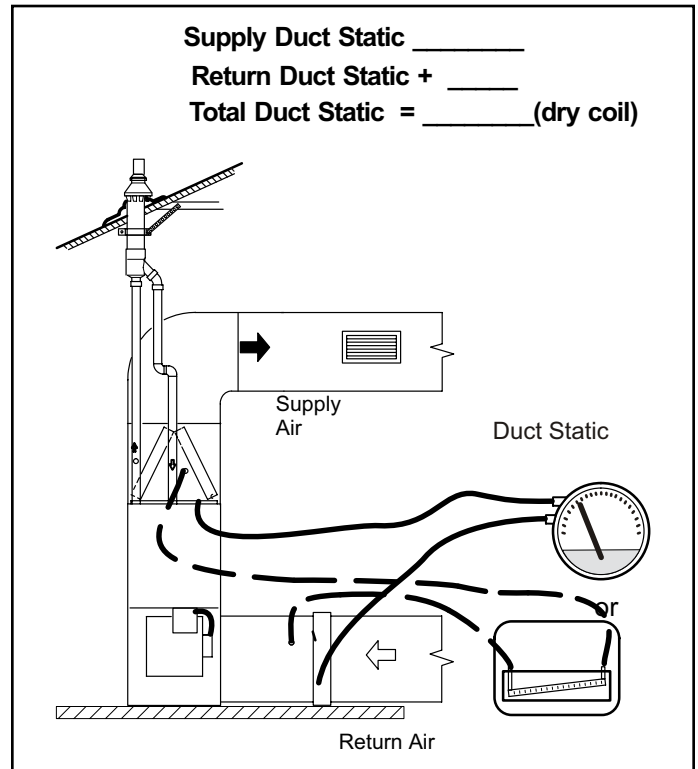

Figure 55. Static Pressure Test
1. Tap locations shown in Figure 55.